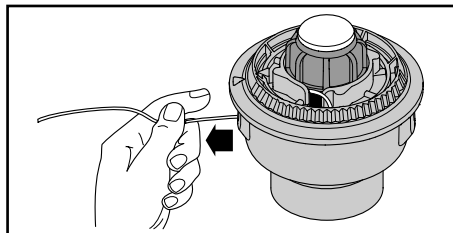

Fig. 16
4. Pull the line away from the spool until the line is tight against the inner reel (Fig. 16).